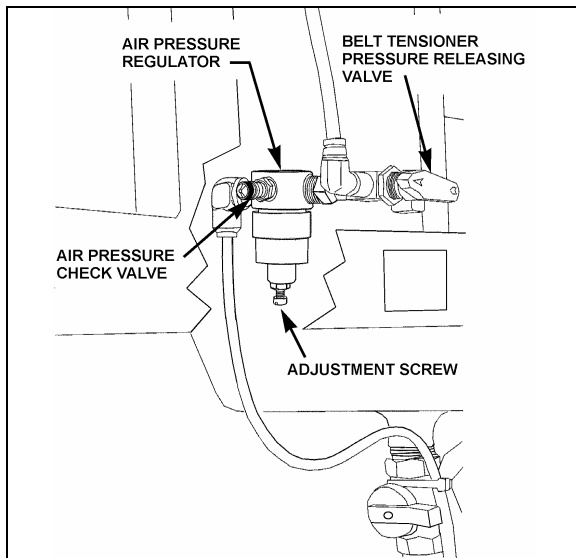

FIGURE 18: AIR PRESSURE REGULATOR
1. Open engine compartment rear doors and locate the belt tensioner pressure releasing valve (Fig. 18), mounted above the engine
3. Reset belt tensioner pressure releasing valve (Fig. 18) to 50 psi (345 kPa) to apply tension on the new belts as explained in Section 12.